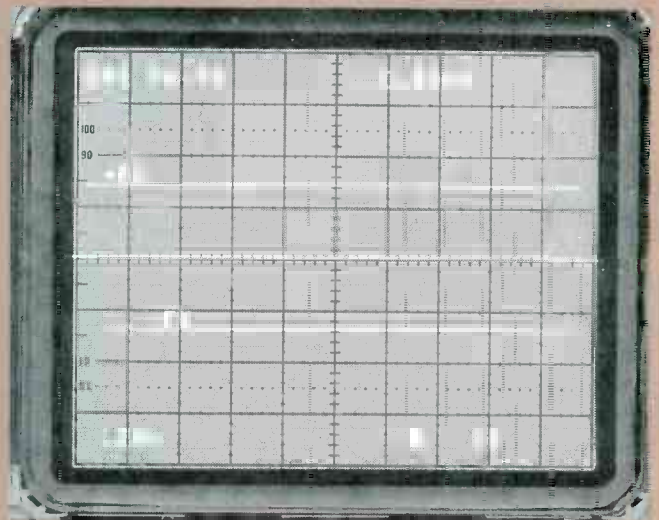

FIG. 3—TRACKING CURSORS INDICATE that there are high-frequency spikes in what appeared at first glance to be a clean DC voltage.
When making those measurements, tracking on-screen cursors will indicate where the scope is reading its voltages from. For example, in Fig. 3, notice how the peak-to-peak cursors appear to be floating above and below the DC voltage line from a VCR's power supply. The tracking cursors indicate that there are high-
Another way of using an op-amp is as a linear amplifier in the closed-loop mode. The circuits in Fig. 3 have negative feedback applied from the output to the inverting input. That technique enables the overall gain of those circuits to be precisely controlled by the values of the external-feedback components, regardless of the open-loop characteristics of the particular op-amps that are used.
Figure 3-a shows how to use an op-amp as a fixed-gain inverting DC amplifier. The gain (A) of the circuit is controlled by the ratios of R1 and R2, and is equal to $R2/R1$. The input impedance of the circuit is equal to the value of R1, so both the gain and the input impedance of the circuit are easily controlled.
Note in Fig. 3-a, that although R1 and R2 control the gain of the entire circuit, they have no effect on the parameters of the actual op-amp. Therefore, the inverting terminal still has a very high input impedance, so the current flowing into that terminal is negligible. Consequently, virtually all of the current that flows through R1 also flows through R2. That's why currents I_1 and I_2 can be regarded as being equal, as shown in the diagram. Also note that R2 has an apparent value of $R2/A$ when seen from the inverting terminal, so the junction of
FIG. 3—CLOSED-LOOP AMPLIFIER circuits. An inverting DC amplifier is shown in (a), a non-inverting DC amplifier is shown in (b), and a voltage follower is shown in (c).
Figure 3-b shows how to use an op-amp as a fixed-gain non-inverting amplifier. The voltage gain is equal to $(R1 + R2)/R2$, and the input impedance is approximately $(A_O/A)Z_{IN}$, where Z_{IN} is the open-loop input impedance of the op-amp. The circuit in Fig. 3-b can be used as a precision voltage follower by connecting it as a unity-gain non-inverting amplifier, as shown in Fig. 3-c, where the op-amp operates with 100% negative feedback. In that circuit the input and output voltages are identical, but the input impedance of the circuit is very high, approximating $A_O \times Z_{IN}$.